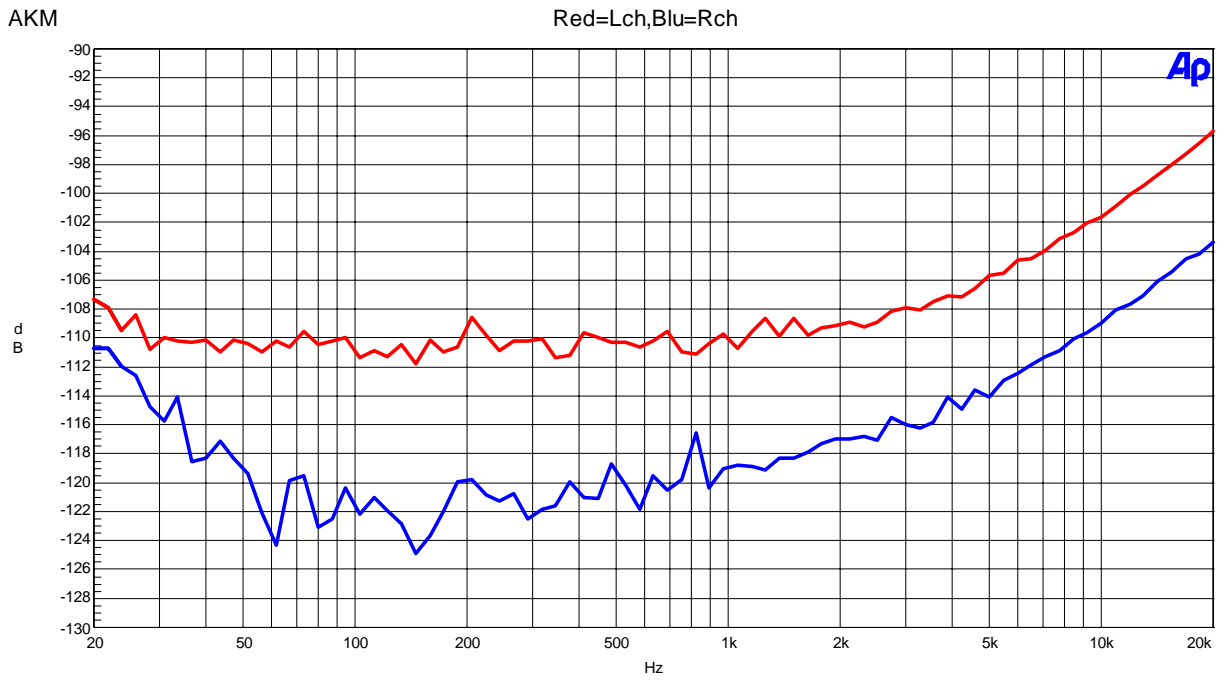

Figure 25. Cross-talk (Input Level=0dBFS)
- Figure 25. FFT (noise floor)